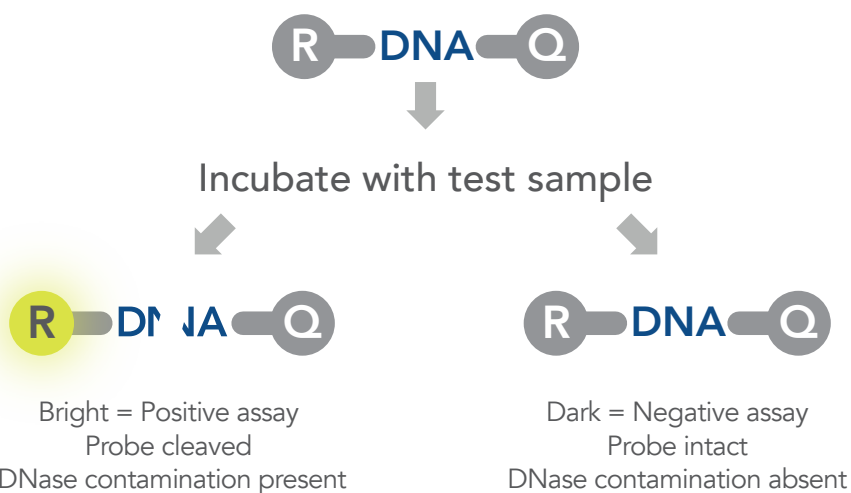

Figure 1. How DNaseAlert Substrate works.
DNaseAlert Substrate is a synthetic DNA oligonucleotide that has a HEX reporter dye (hexachlorofluorescein, R) on one end and a dark quencher (Q) on the other end (Figure 1). Its sequence has been carefully optimized to react with a wide variety of nucleases; it contains domains that will react with single-stranded endonucleases, single-stranded exonucleases, and double-stranded nucleases. Intact, the substrate has little or no fluorescence. When cleaved by a DNase, the substrate fluoresces pink (536 nm or UV excitation, 556 nm emission).